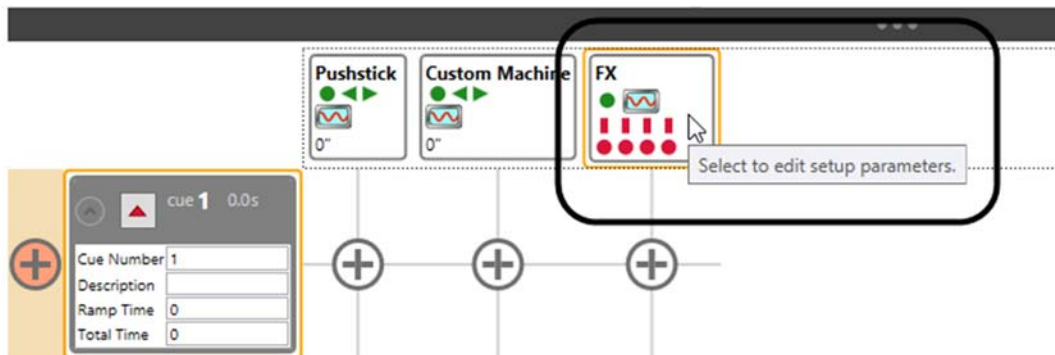

Figure 177
*The selected Stagehand FX will be indicated with an orange outline (Figure 177).*